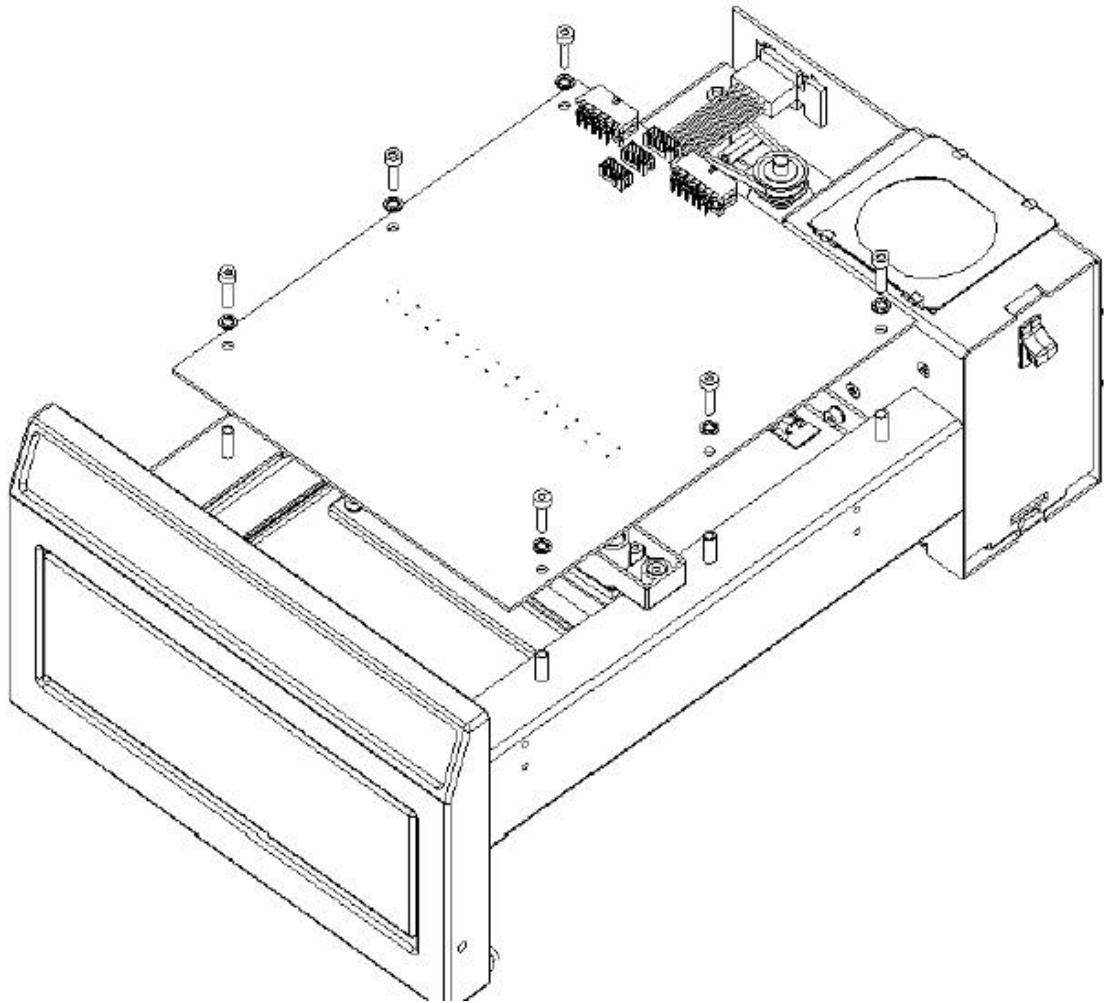

Figure N-9: Removing the Reader PCB
2. Remove the Reader PCB by removing the six cap head screws (Figure N-9).